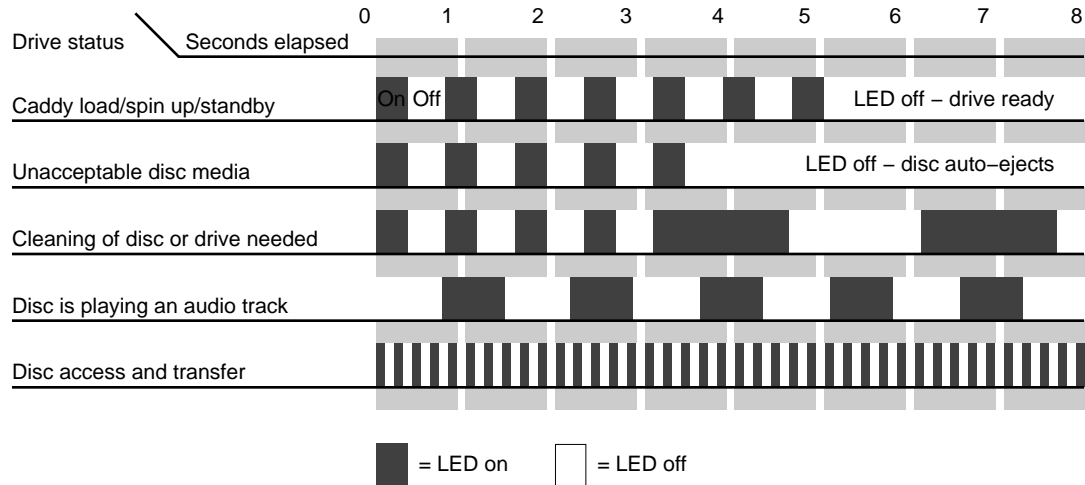

Figure B-2 CD-ROM Drive LED Status Indicators
- A *drive-active indicator LED* (located to the left of the eject button) blinks to indicate drive activity. The LED stays dark when no disc caddy is loaded in the drive. See Figure B-2 for details on blink patterns and the status they indicate for the drive.